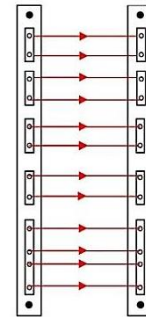

Fig. 2
3. Connect the battery and press briefly the reset button on the RX motherboard, paying attention not to block the transmission beams; the buzzer will signal the individual double beams have been received (Fig. 2).